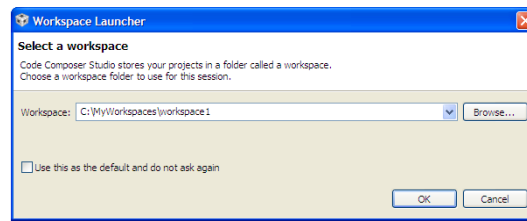

Figure 19. Opening a New Workspace
2. Once Code Composer Studio opens, the workspace launcher asks to select a workspace location as shown in Figure 19. Note that the workspace is a location on the hard drive where all user settings for the IDE, such as which projects are open, what configuration is selected, and which are saved. This can be anywhere on the disk, the location mentioned below is just for reference. Also note that if this is not the first time running Code Composer, this dialog may not appear.